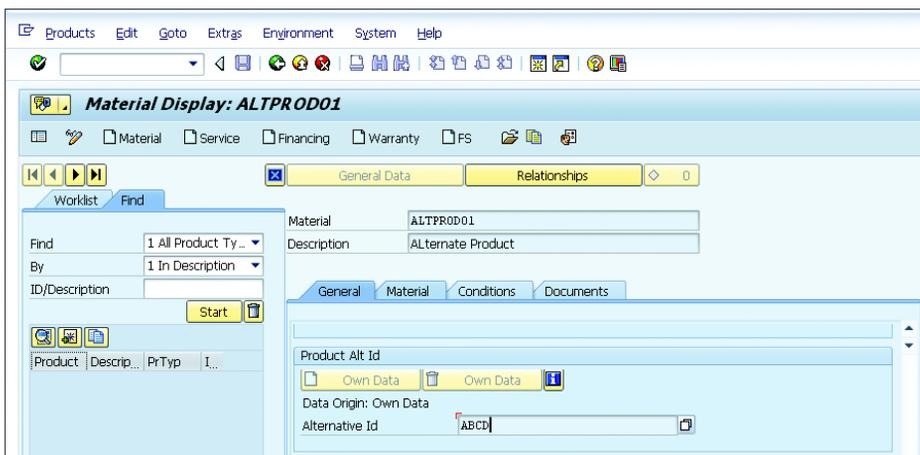

Figure 4.30 Product Master with the Product Alternative ID Set Type
11. Verify Transaction COMMPR01 to check the new set type added to the product category, as shown in Figure 4.30.